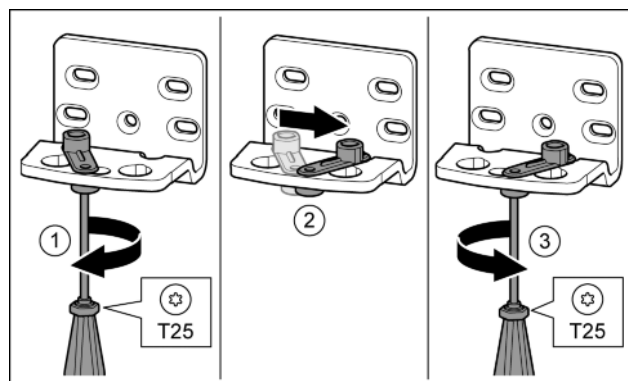

Fig. 16\*
- Loosen the screw using a T25 screwdriver.\* Fig. 16 (1)
- Lift the door closure aid and turn it 90° to the right in the hole.\* Fig. 16 (2)
- Tighten the screw using a T25 screwdriver.\* Fig. 16 (3)